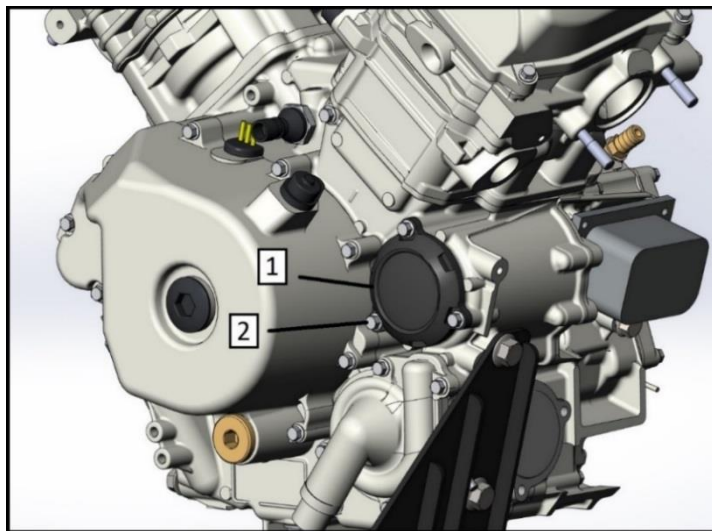

Fig. 6
3. 3. Lay absorbent fabric or non-woven material (posture 1, figure 6) under the cover to absorb the oil flowing out.
4. 4. The end is 8mm, unscrew the screw (position 2, figure 6), and remove the cover.